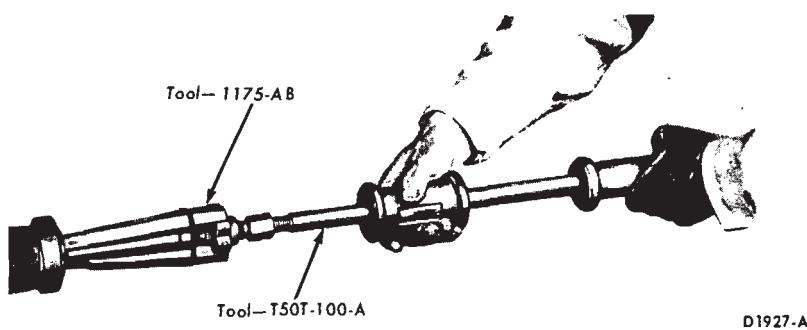
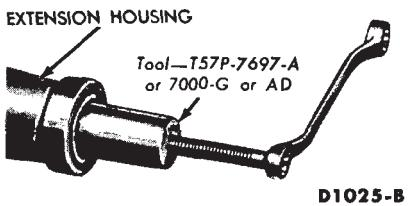

FIG. 21—Removing Extension Housing Seal
FIG. 22—Removing Extension Housing Bushing
2. When only the rear seal needs replacing, carefully remove it with a tapered chisel or the tools shown in Fig. 21. Remove the bushing as shown in Fig. 22. Use the bushing remover carefully so that the spline seal is not damaged.